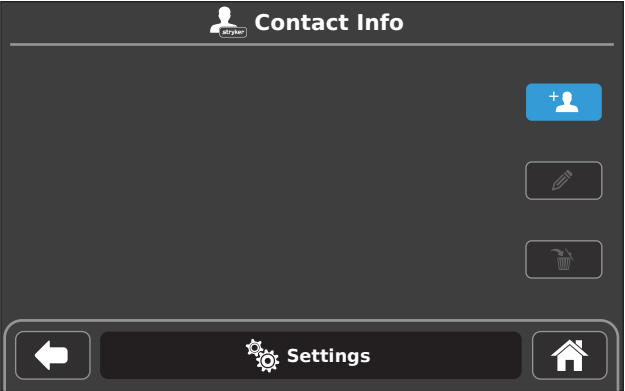

Figure 30 – Create CONTACT INFO Entry
3. From the CONTACT INFO screen, touch the CREATE NEW button to access a keyboard screen (Figure 30).